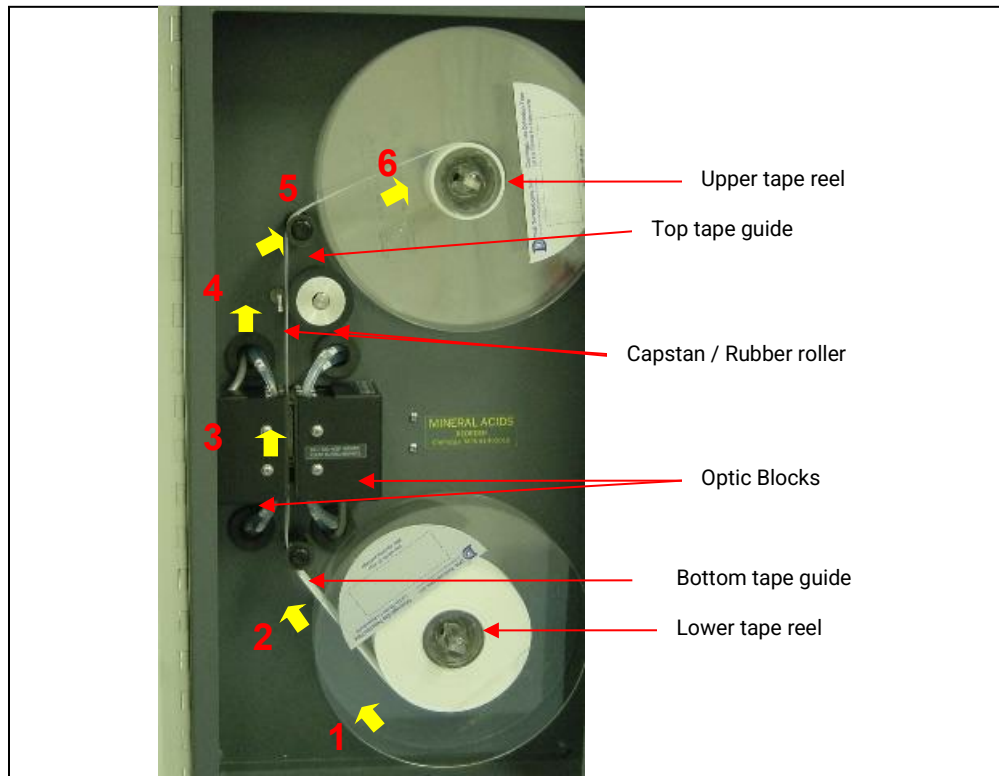

Figure 6.1
- F. Secure the new ChemLogic cassette on the bottom as shown in Figure 6.1. The tape should be around the bottom in a clockwise direction as shown.
- G. Feed the tape as shown with the arrows in Figure 6.1.